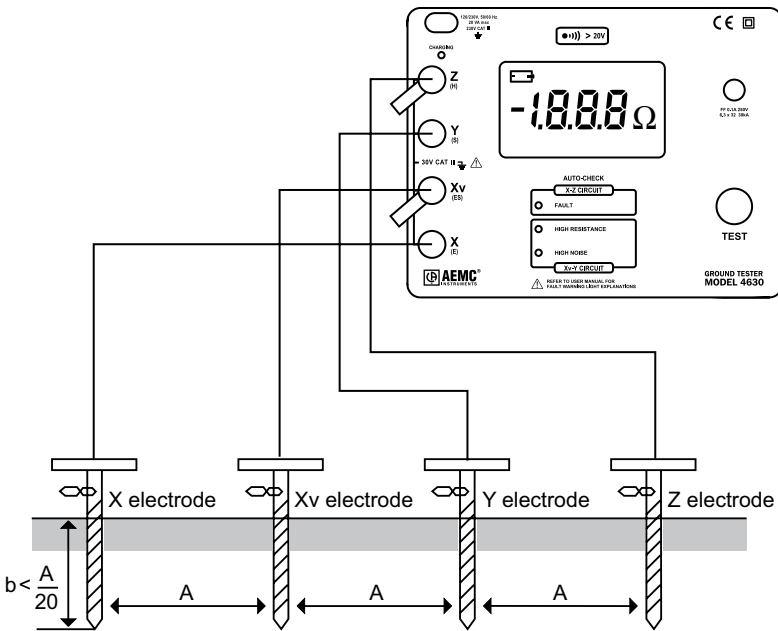

Figure 6
- Example: 20 ft (609.6 cm) between each electrode for auxiliary ground electrodes that will be driven 10 ft deep (See Figure 6).
- Read the resistance level (R) indicated on the display.